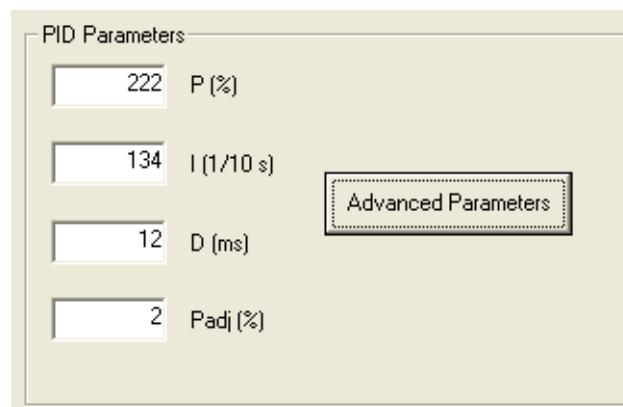

Figure 37 PID Parameters
1. Enter values in the required fields in Figure 37.